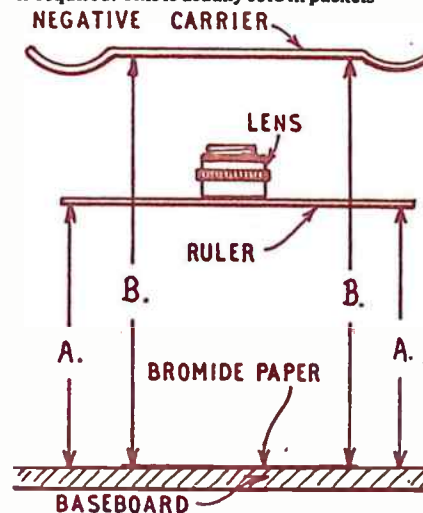

Fig. 4—Checking for accuracy
If every care was taken with focussing, then the negative, lens, and bromide paper may not all be parallel. This can be checked as shown in Fig. 4. A ruler, or other straight object, is placed across the enlarger lens mount. The distances (A) should then be measured, and should be equal.